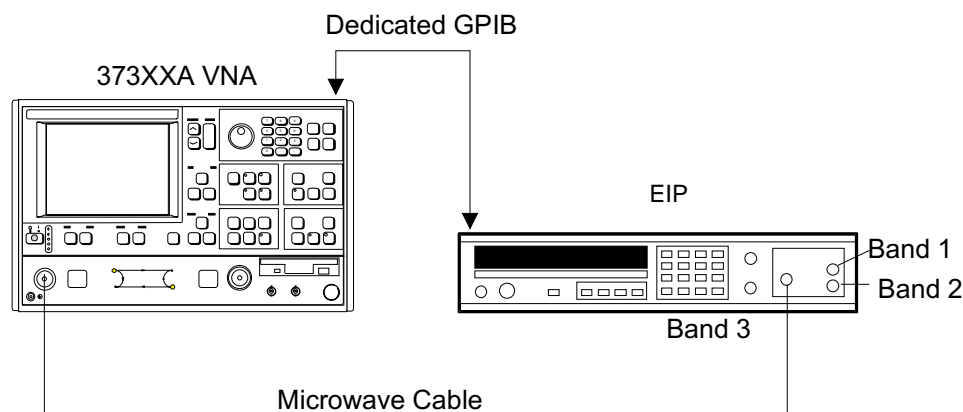

Figure 6-1. Test Setup for Frequency Calibration
- Step 3. Follow the directions displayed on the screen to set-up and connect the frequency counter to the 373XXA. Refer also to Figure 6-1. Select **START SOURCE FREQ CALIBRATION** from menu (above).